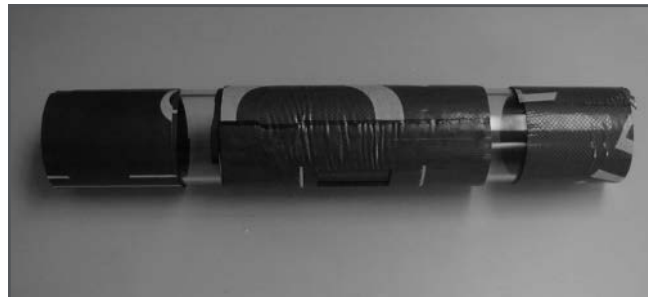

Figure 35: Completed DMP-1 Installation
12. Wrap each of these strips around the pipe on the outside edge of the clamping fixture, one upstream and one downstream. The completed dampening material installation should appear similar to Figure 35.